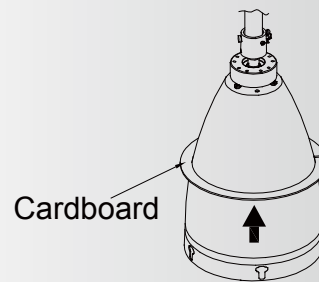

Fig. 7
Step 3. Remove the cardboard from the motor body. (Fig. 7)